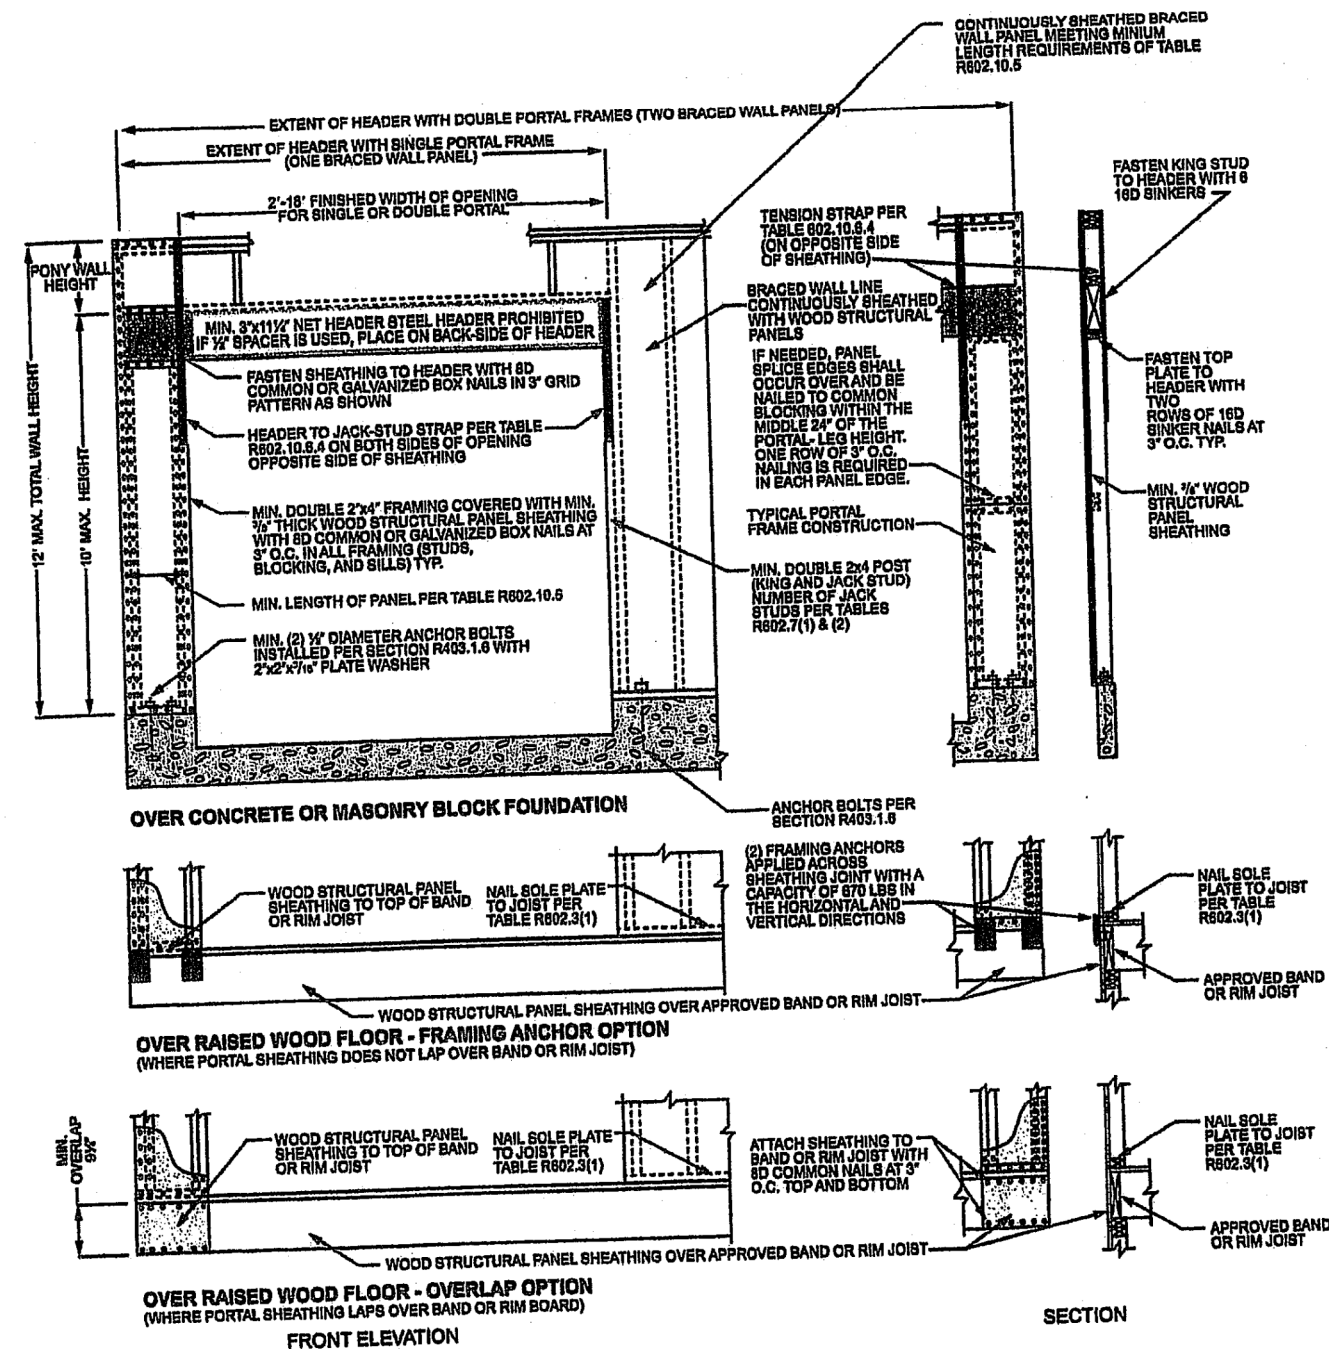

FIGURE R602.10.6.4
e. Maximum header height for CS-PF is 10 feet in accordance with Figure R602.10.6.4, but wall height shall be permitted to be increased to 12 feet with pony wall.